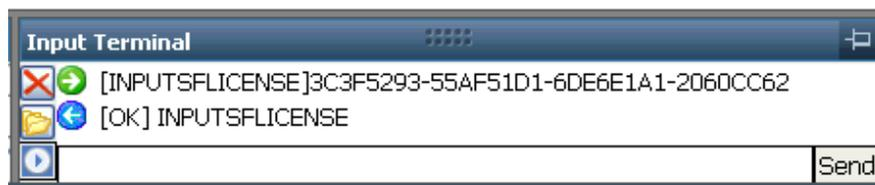

Figure 109: Input Terminal – Confirmation of StarFire License Upload
The *Input Terminal* window also displays the outcome of the upload. In the example in Figure 109, the upload is successful.
3. Click *Send* to upload the license. A confirmation message is displayed in the *Input Terminal* window (see Figure 109).